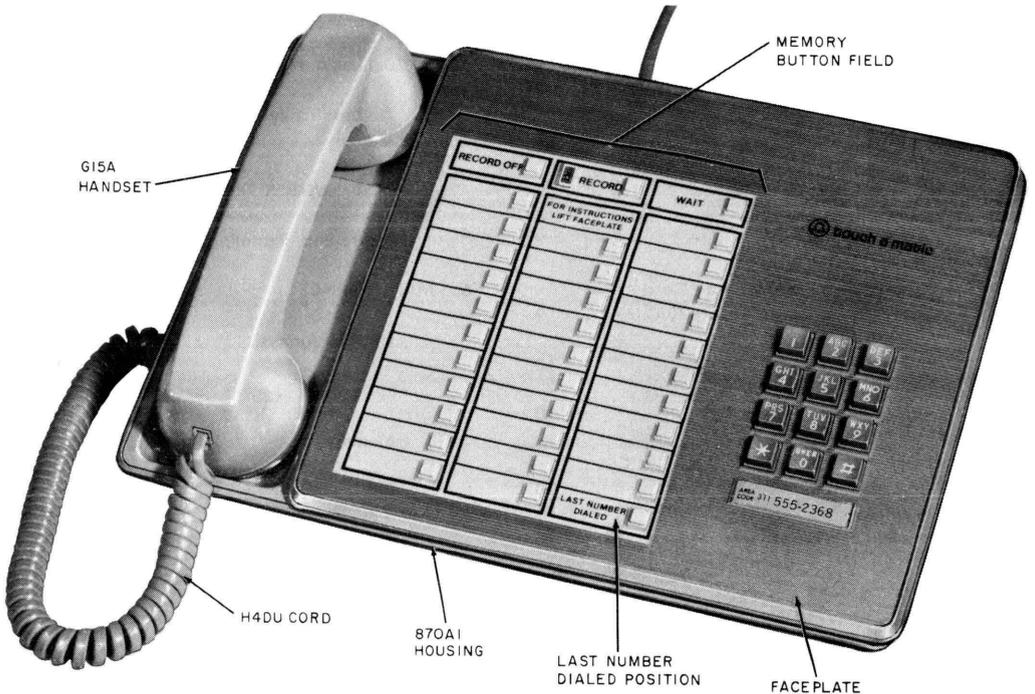

Fig. 1—2870A1M or 2870A2M Telephone Set
1.01 This section provides identification, installation, connections, and maintenance information for the 2870A1M (MD) and 2870A2M telephone sets (Fig. 1).